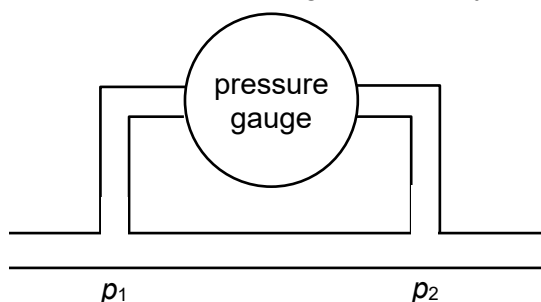

Fig. 1.1
- (c) Experiments on gas-flow through a cylindrical tube are conducted. The pressure difference ($p_1 - p_2$) between two points along the tube is recorded as $800 \pm 101 \text{ Pa}$ by a pressure gauge as shown in Fig.1.1. However, the manufacturer of the pressure gauge states that its measurements have a percentage uncertainty of 2.5%.